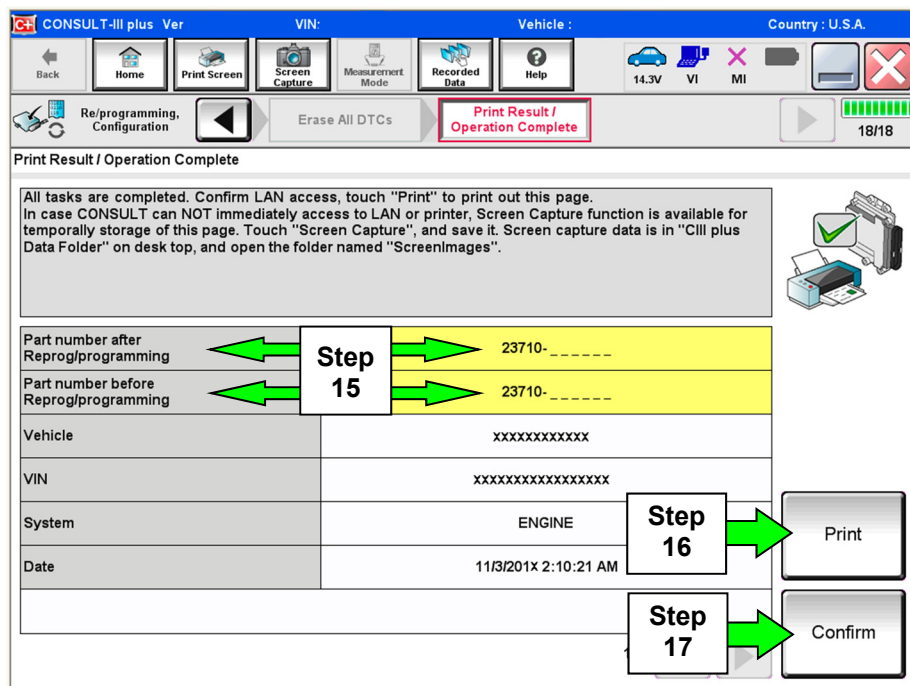

Figure 8
14. When the entire reprogramming process is complete, the screen in Figure 8 will display.
16. Print a copy of this screen (Figure 8) and attach it to the repair order for warranty documentation.